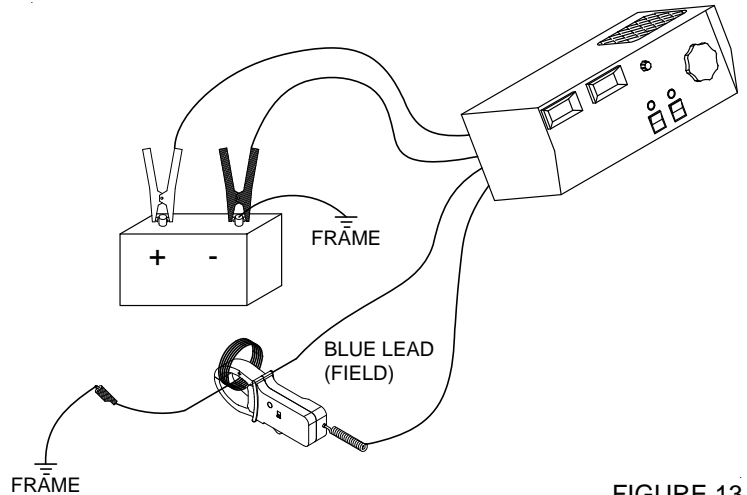

FIGURE 13
- 2) Attach unit as shown (See figure 13).